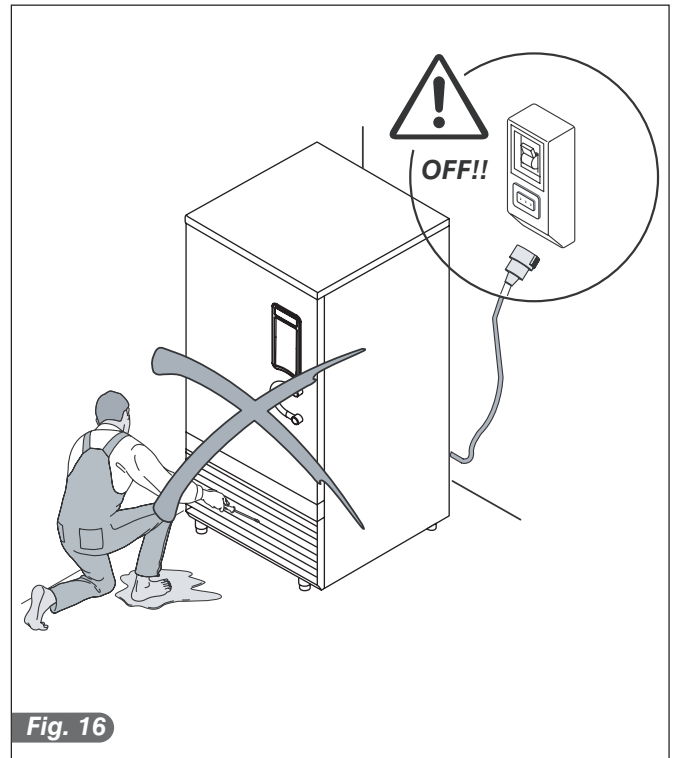

Fig. 16
In order to clean and carry out routine maintenance in safety, refer to the Safety Standards in par. 1.5 (►► Fig.16):
- do not pull the power supply cable to disconnect the machine from the power supply mains Fig. 16